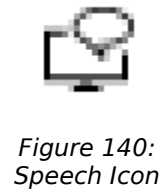

Figure 140: Speech Icon
4. Its important that in each language appears the “Text To Speech” icon (Figure 140). If a new language must be installed proceed with step 5. Otherwise if the “Text To Speech” Icon does not appear in the desired language proceed with step 5.